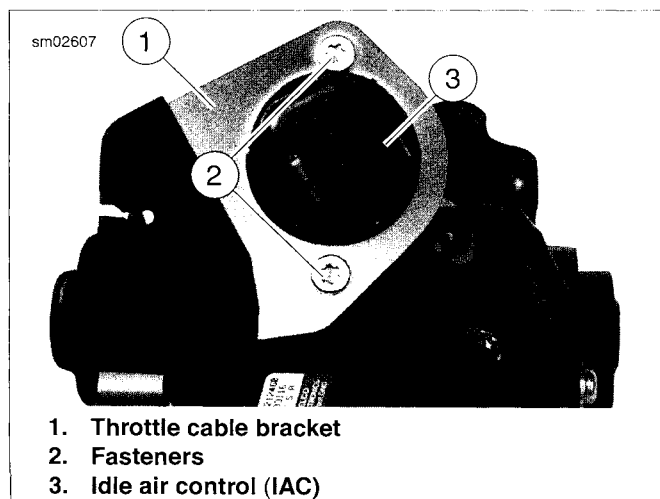

Figure 4-23. Idle Air Control Location
2. See Figure 4-23. Remove two fasteners (2) to release throttle cable bracket (1) from induction module. Discard fasteners.
5. See Figure 4-23. Install **new** throttle cable bracket fasteners (2). Tighten to 20-35 **in-lbs** (2.3-4.0 Nm).